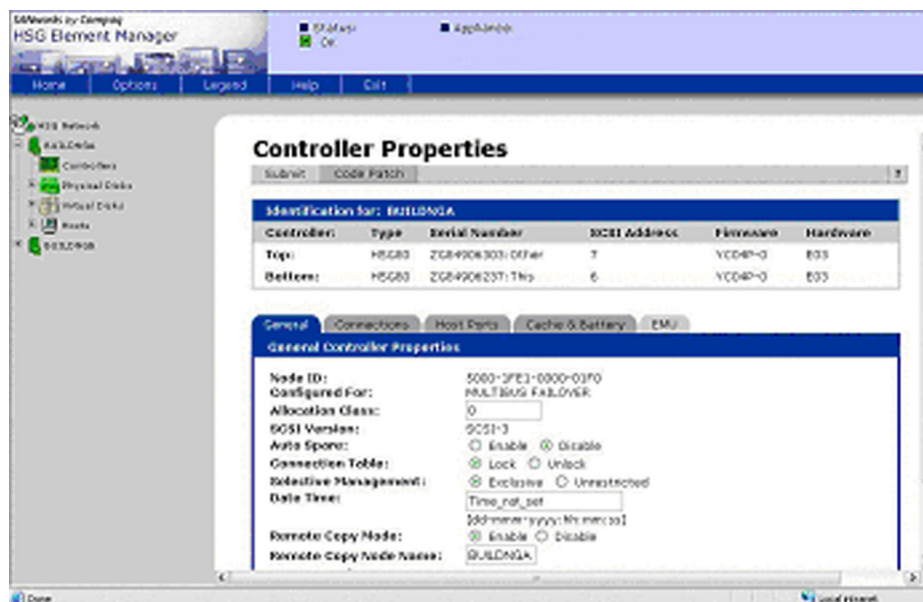

Figure 18: HSG Element Manager Controller Properties page
2. Choose an HSG80 storage system and click **Controllers**. The Controller Properties page is displayed (Figure 18).